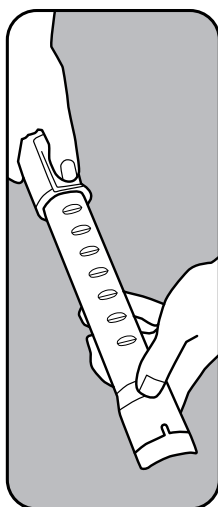

Fig. 2
2. Extend the wand by pulling the button back and pushing the end of the wand forward (Fig. 2).